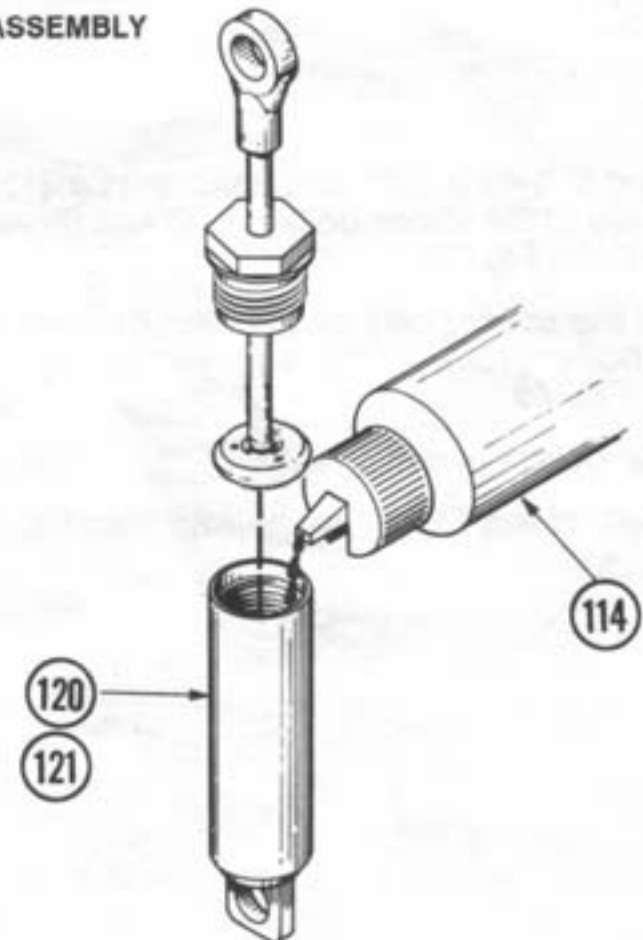

Figure 47
9. Clean out shock body [Front (120), Rear (121)] with a clean, soft, lint free cloth. Fig. 47
* Note: Front shock body (120) is shorter than rear shock body (121).
10. Fill shock body (120), (121) with shock oil (114) up to bottom of the threads. Fig. 47
11. Insert shaft assembly with cartridge (111) against the shock mount (117). Slowly tighten the cartridge allowing oil to bleed out until finger tight. Now, secure by turning with pliers approximately 1/8 turn additional.
* Note: Be sure to match front shaft (115) with front body (120) and rear shaft (116) with rear body (121).